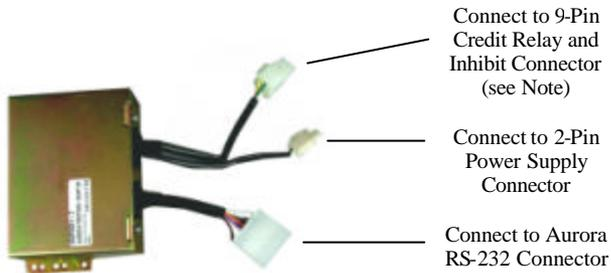

Figure 13. 110/220 VAC High-Level Pulse PAA
- b. For 110/220 VAC High-Level Pulse PAA, make the connections in **Figure 13**; for connector pin-signal assignments, refer to Technical Bulletin **GPB3T04** (latest revision).